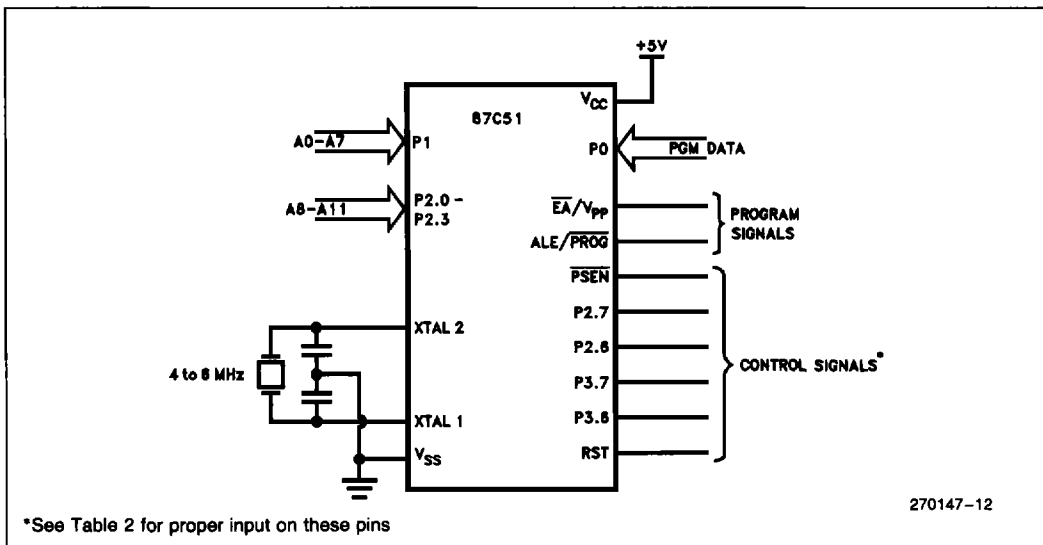

Figure 10. Programming the EPROM
Refer to Table 2 and Figures 10 and 11 for address, data, and control signals set up. To program the 87C51 the following sequence must be exercised.
6. All pin numbers and the P3.3 control line deleted from Figure 10.